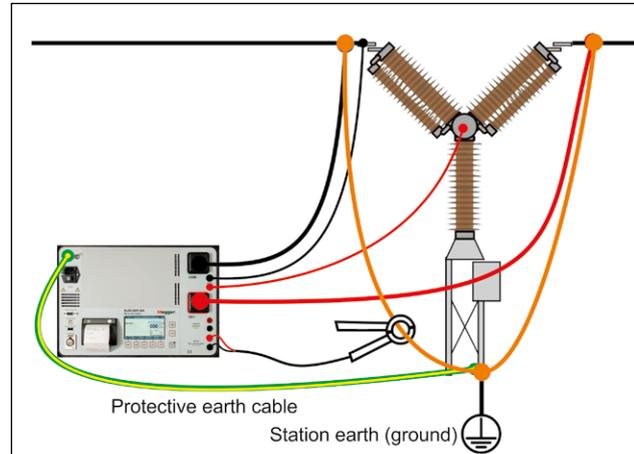

Fig. 6.1 Note that on MJÖLNER 600 the current outputs have reverse position.
Note *The sensing cables must be connected inside the current cables. Otherwise the test data may be incorrect. See Fig. 6.1.*
- 6] Apply the external current clamp to one of the grounding cables and connect the clamp outputs to the "INPUT DC current clamp" on MJÖLNER. See Fig. 6.1.